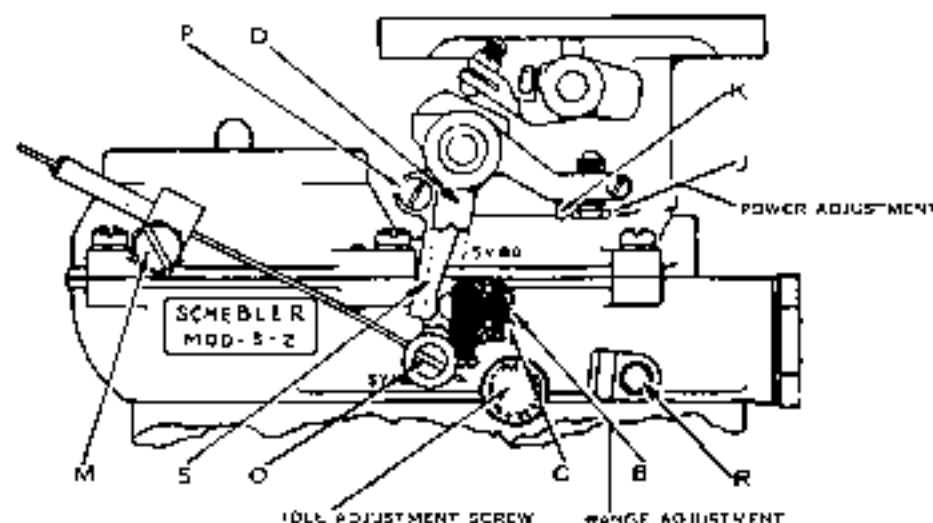

Fig. 8
Installation.—The dash control tubing should be fastened securely under the clamp and screw assembly (M, Fig. 8) and the dash control wire should be fastened in the binding post (O) so that there is about $\frac{1}{32}$ " play between the lug on the loose lever (D) and the screw (P) when the throttle is closed and when slotted end of range screw (B) is flush with knurl bushing (C). After tightening screw in binding post (O), straighten out the control wire so that the loose lever (D) does not bind the dash control lever (S) and cause it to stick open. Operate the dash control several times to check this point.
Idle Adjustment. Turn the idle adjusting knob (Fig. 8) to the right for a lean mixture, and to the left for a rich mixture. To check the idle adjust-